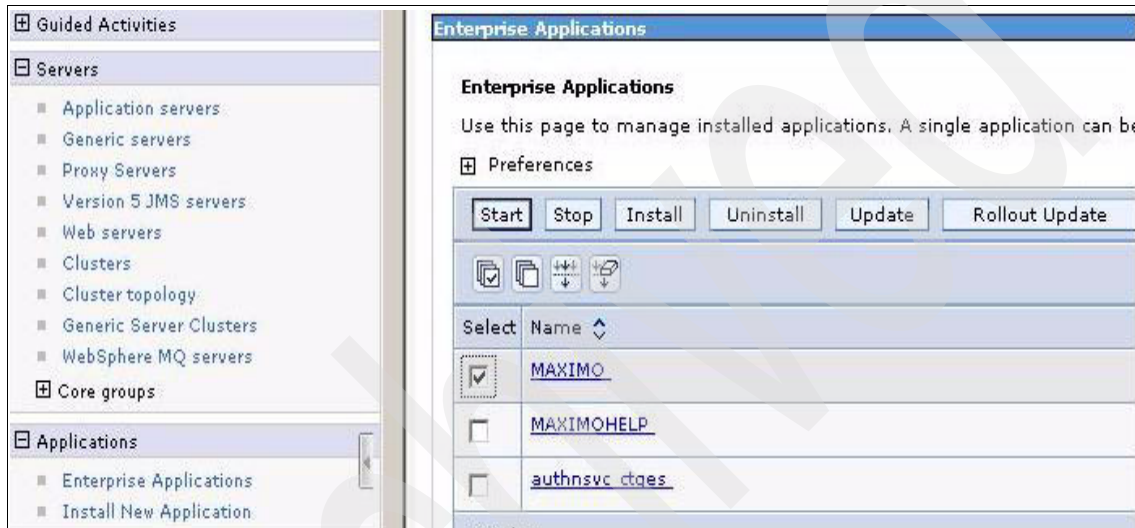

Figure A-46 Uninstall EAR file
8. Log on to the WebSphere administrative console, from **Applications** → **Enterprise Applications** (see Figure A-46). Select and uninstall the maximo.ear file, then click **Save**.